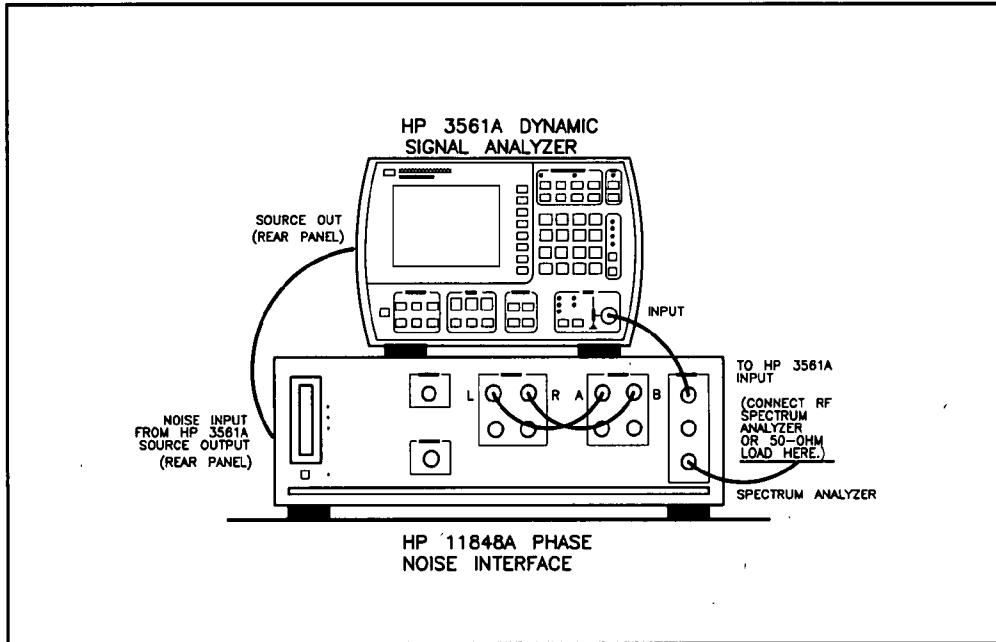

Figure 1. Quick Check Setup
4. Connect the HP 3561A input and the two 10 MHz source outputs to the HP 11848A as shown in the connect diagram on the computer display and in Figure 1. Note especially the rear-panel connections.